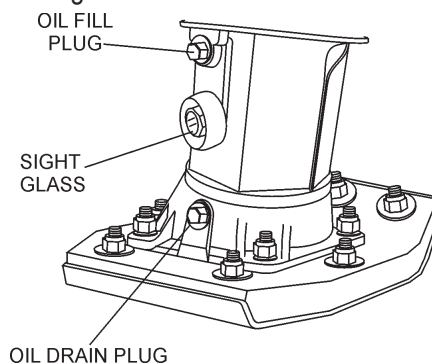

Figure 18. Foot Housing Drain Plug
- Drain oil reservoir on foot housing (Figure 18). Refill with approximately 1.0 pt. (520 cc.) of 10W-30 SE, SF or higher grade motor oil. Oil should be midway in sight glass. Break in oil should be changed after first 50 hours.